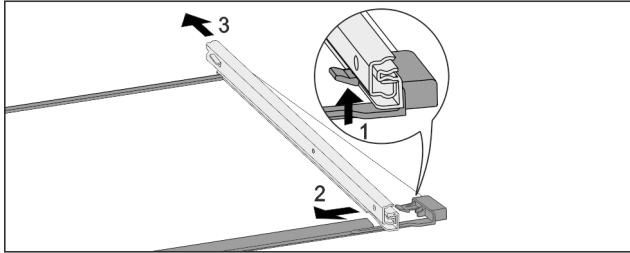

Fig. 171 Glass shelf with rails
- Push up front click-in hooks. Fig. 171 (1)
- Slide pull-out rails to the side Fig. 171 (2) and backwards Fig. 171 (3).